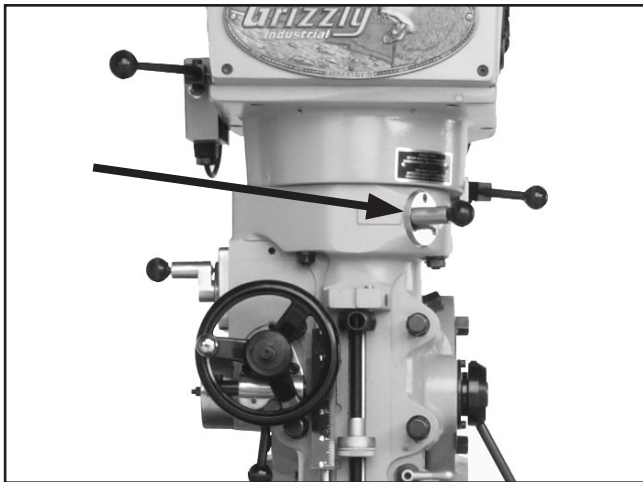

Figure 38. Quill auto-downfeed selector in the DISENGAGE (forward) position.
2. Pull the quill auto-downfeed selector knob out and rotate it clockwise to the DISENGAGE (forward) position (see **Figure 38**).